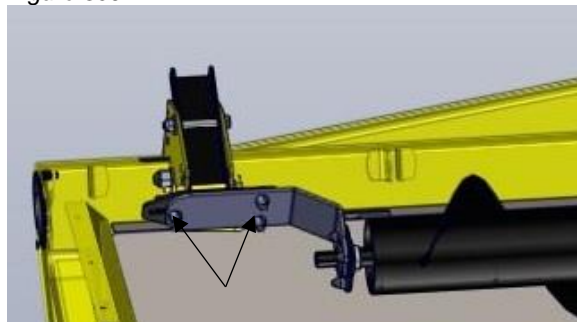

Figure 310
8. The right-hand auger can be removed by removing the 3 bolts holding the bearing mount to the retaining tab. Figure 310